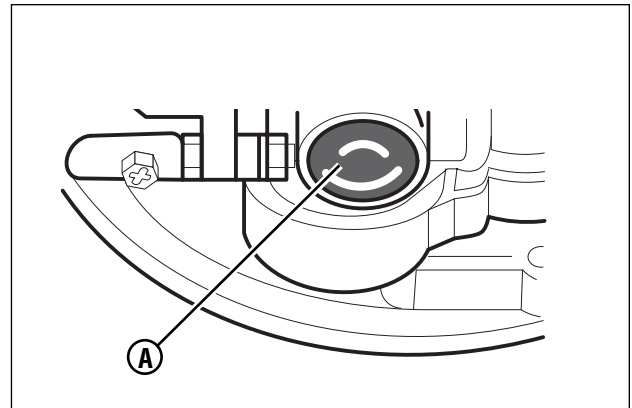

Figure 13: The engine primer button
5. The primer button (**A, Figure 13**) is on the side of the engine. Push the primer button. Every time you push the primer button, wait two seconds. For the number of times required to push the primer button, see the engine manufacturer's instructions.